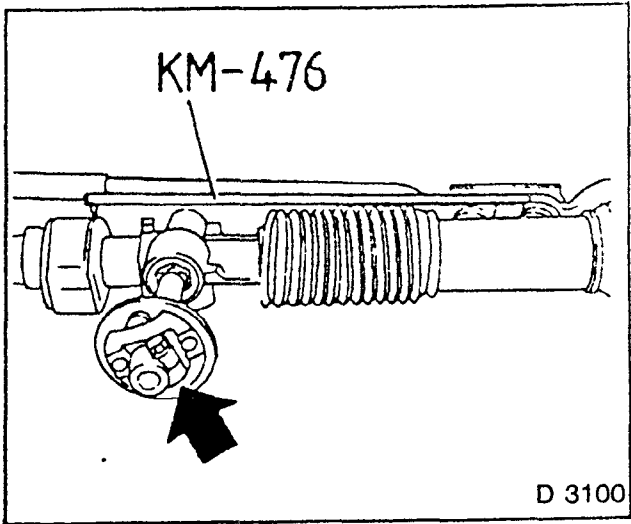

Fig. 6
- 1. When clamp flange bolt is positioned diagonally Fig. 6 — e.g. pinion misplaced by one tooth on steering rack (installation fault) — steering pinion position must be corrected immediately.